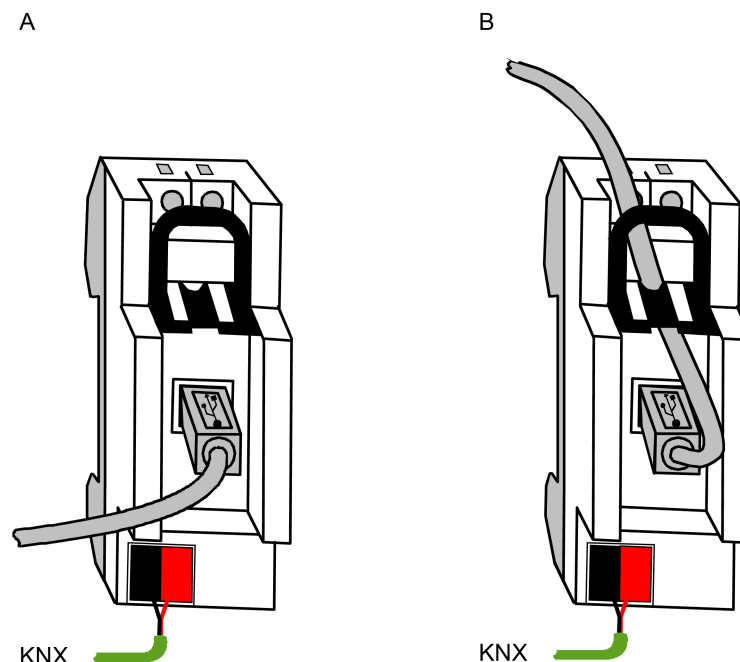

Figure 2: Device connection
- Snap onto DIN rail to DIN EN 60715. Observe the installation position (see figure 2).